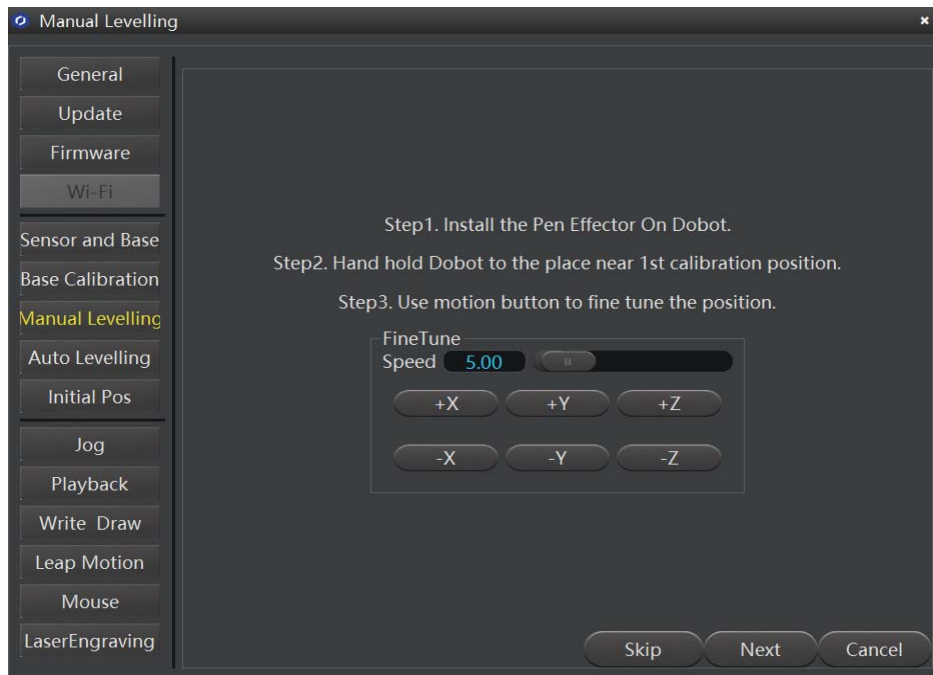
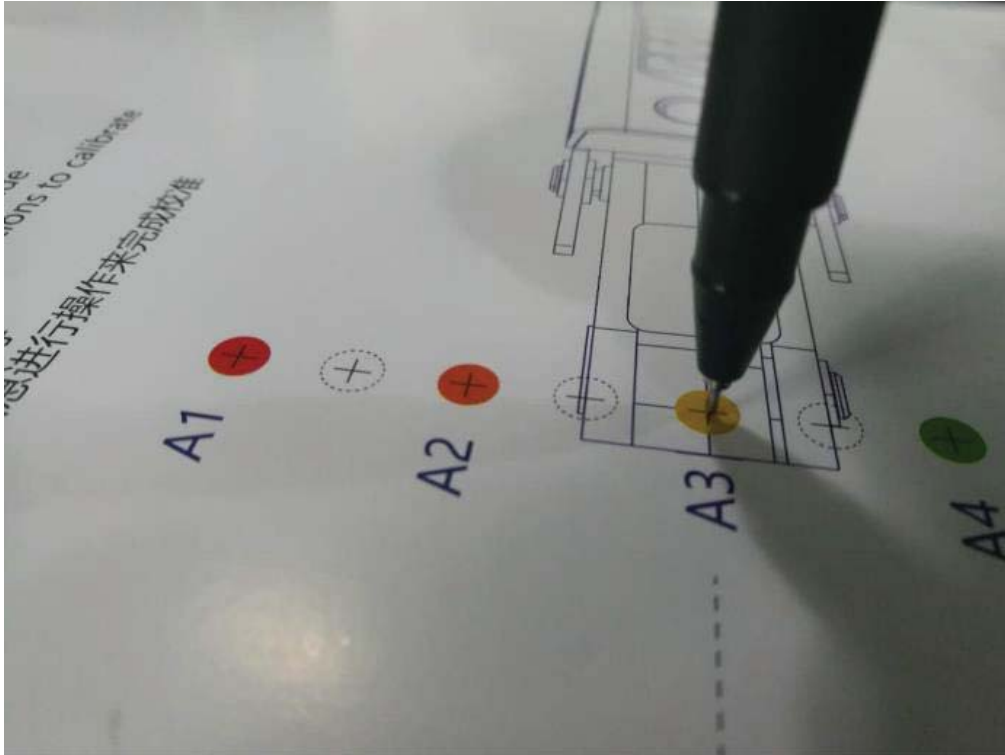

Figure 5.161 Fine-tune page
Figure 5.162 Nib position
3. Click coordinate buttons on the **Manual Levelling** page (as shown in Figure 5.161) to make the nib align to the center of A3 point on the calibration board, as shown in Figure 5.162.